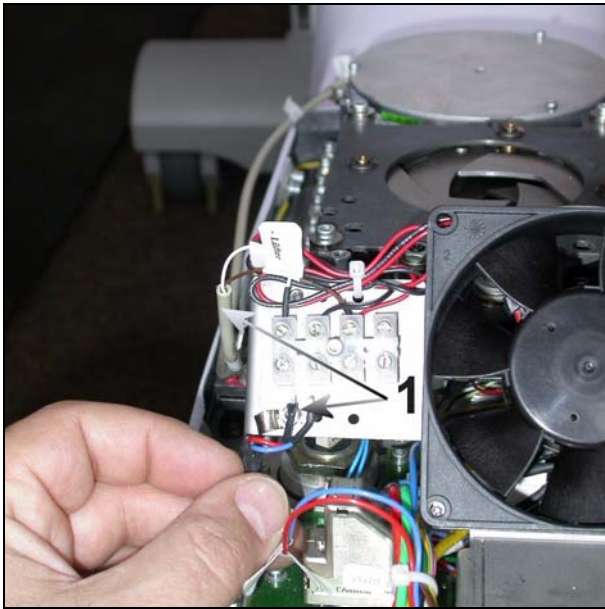

Fig. 6
- Note down the connection order of the fan assembly supply cable, and loosen the cables (terminals and colors of the cables, see 1/ Fig. 6).
- Also loosen the cable for the fan integrated in the C-arm. Also note down the connection order (1/ Fig. 6).